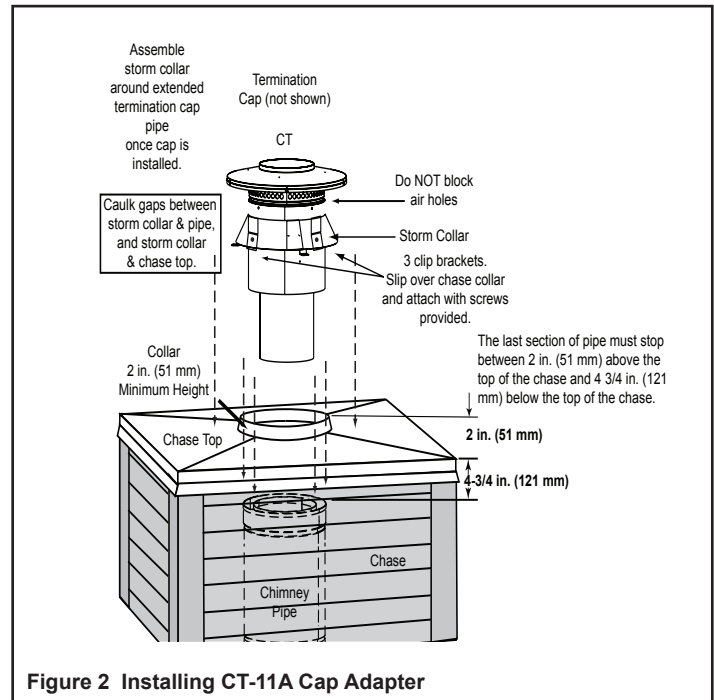

Figure 2 Installing CT-11A Cap Adapter
- The uppermost chimney section must terminate no more than 4-3/4in. (121mm) below the top of the flashing collar on the chase top and 2 in. (51mm) above the top of the chase. See Figure 2 for additional details.